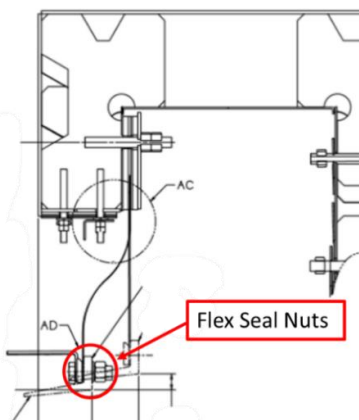

Figure.20: Flex seal clamping hardware
- The flex seal hardware should be inspected to ensure that all the flex seal nuts have been tack welded. If any nut is not tack welded, then retorqued using the torquing method in Figure.20.